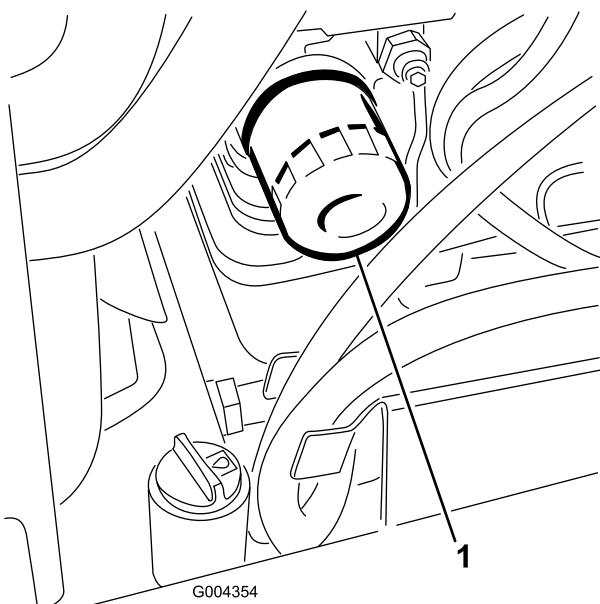

Figure 36
- Remove the old filter (Figure 36) and wipe the surface of the filter adapter gasket.